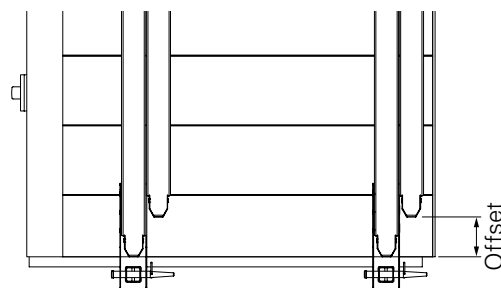

Fig. B1.25a
- If the offset of the Platform Beam is not sufficient, the Guardrail Post Holder Multi must be assembled in advance. (Fig. B1.25a)